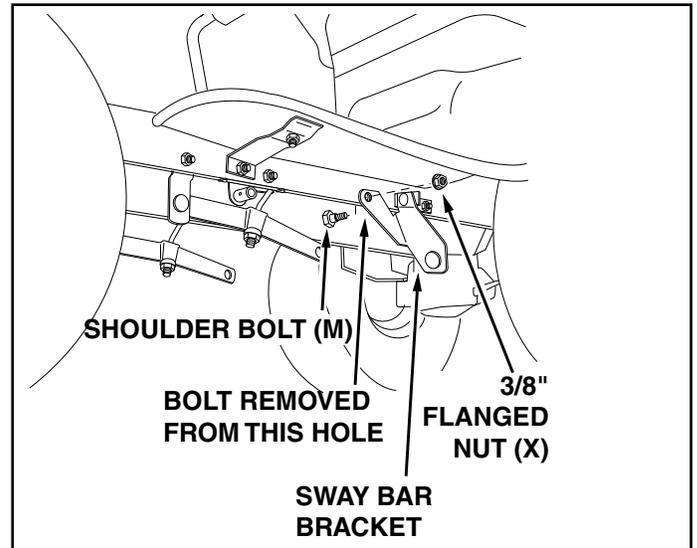

FIGURE 27 LEFT SIDE VIEW
STEP 27: (SEE FIGURE 27)
- Remove the bolt, washer and nut which fasten the sway bar bracket to the L.H. side of the tractor frame. Replace with a shoulder bolt (M) and a 3/8" flanged nut (X). Bolt goes on inside of frame.